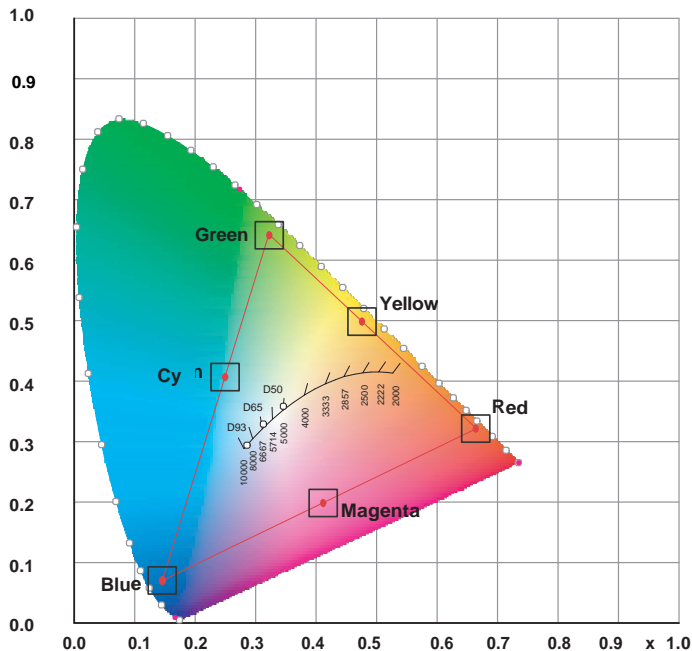

Figure 4-6. CIE 1931 Chromaticity Diagram
- **What are “colour points?”** A “colour point” is an x/ y coordinate pair that defines a colour’s location on the standard CIE chromaticity graph, shown in Figure 4-6. (CIE stands for “Commission Internationale de l’Éclairage” (International Commission on Illumination), the organisation responsible for colour measurement and management standards.)